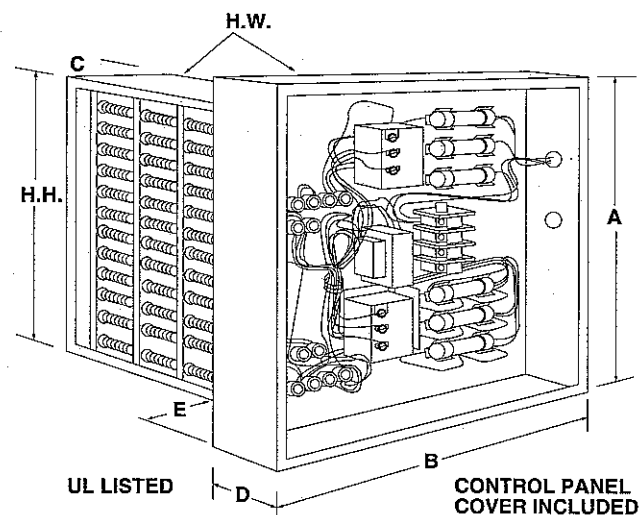

Figure 23. AH Stab-in Electric Heater
The Climate Master AH "stab-in" electric heat package, as illustrated in Figure 23, is designed to provide a supplemental/back-up heat source for water to air heat pump applications. These units are designed and tested to be used mounted in the heat pump supply plenum. Installation other than in accordance with these instructions may cause unit malfunction. NOTE: THE AH MUST be installed in accordance with ALL applicable codes.
**Table 7. Auxiliary Electric Heat Data (See Figure 23)**